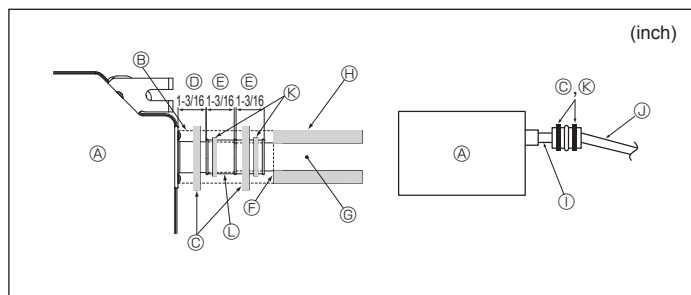

Fig. 3-5
- ④ Up to 850 mm (33 inch)
1. Connect the drain socket (supplied with the unit) to the drain port. (Fig. 3-5) (Affix the tube using PVC adhesive then secure it with a band.)